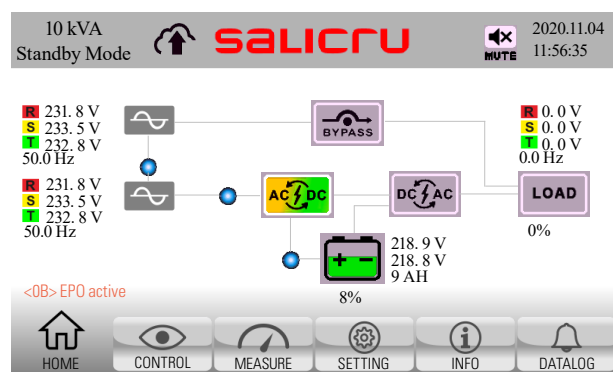

Fig. 59. Main screen with EPO emergency stop activated. There is no output voltage.
2. A new alarm, <OB> "EPO active", appears on the control panel, and the unit switches automatically to standby mode (Fig. 59).